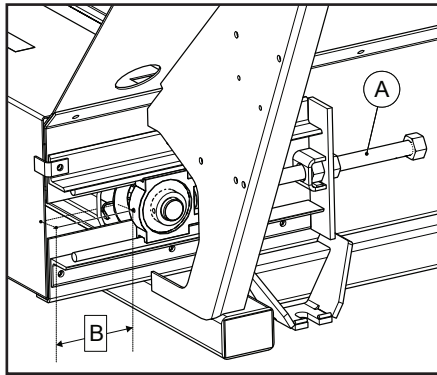

Figure 1
1. Figure 1 - For a new conveyor belt, square idler turnkleen with conveyor bottom by loosening jam nuts and adjusting take-up bolts (A). Measure to ensure Measurement “B” is equal on each side.
NOTE: Once belt is properly tracked, Measurement "B" in Figure 1 may not be equal on each side. This is acceptable.